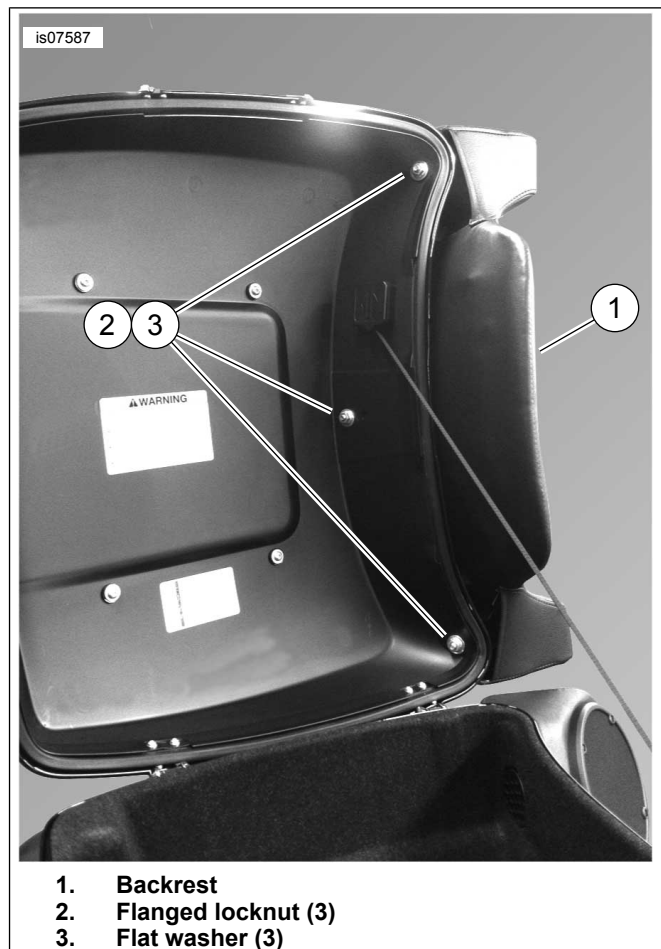

Figure 3. Mounted Backrest on King Tour-Pak Lid
1. See Figure 3. Align the three studs on backrest (1) with drilled holes in Tour-Pak lid.
2. Fasten finger-tight with flanged locknuts (2) and flat washers (3) from kit.
4. Tighten flanged locknuts (2).